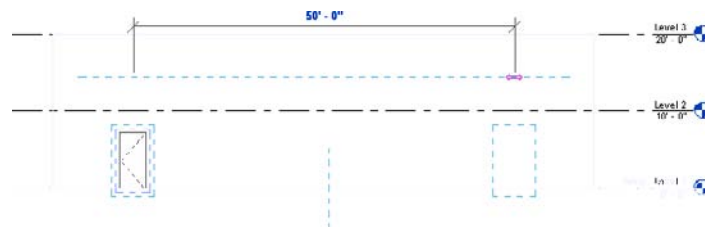

Figure 3.25
- Move your mouse pointer along the wall until the length is 50' 0" (Figure 3.25). Click to accept the length.